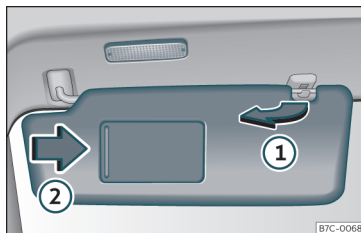

Fig. 100 Sun visor
- The sun visor can be pulled out of its mounting and turned towards the door >>> Fig. 100 ①.